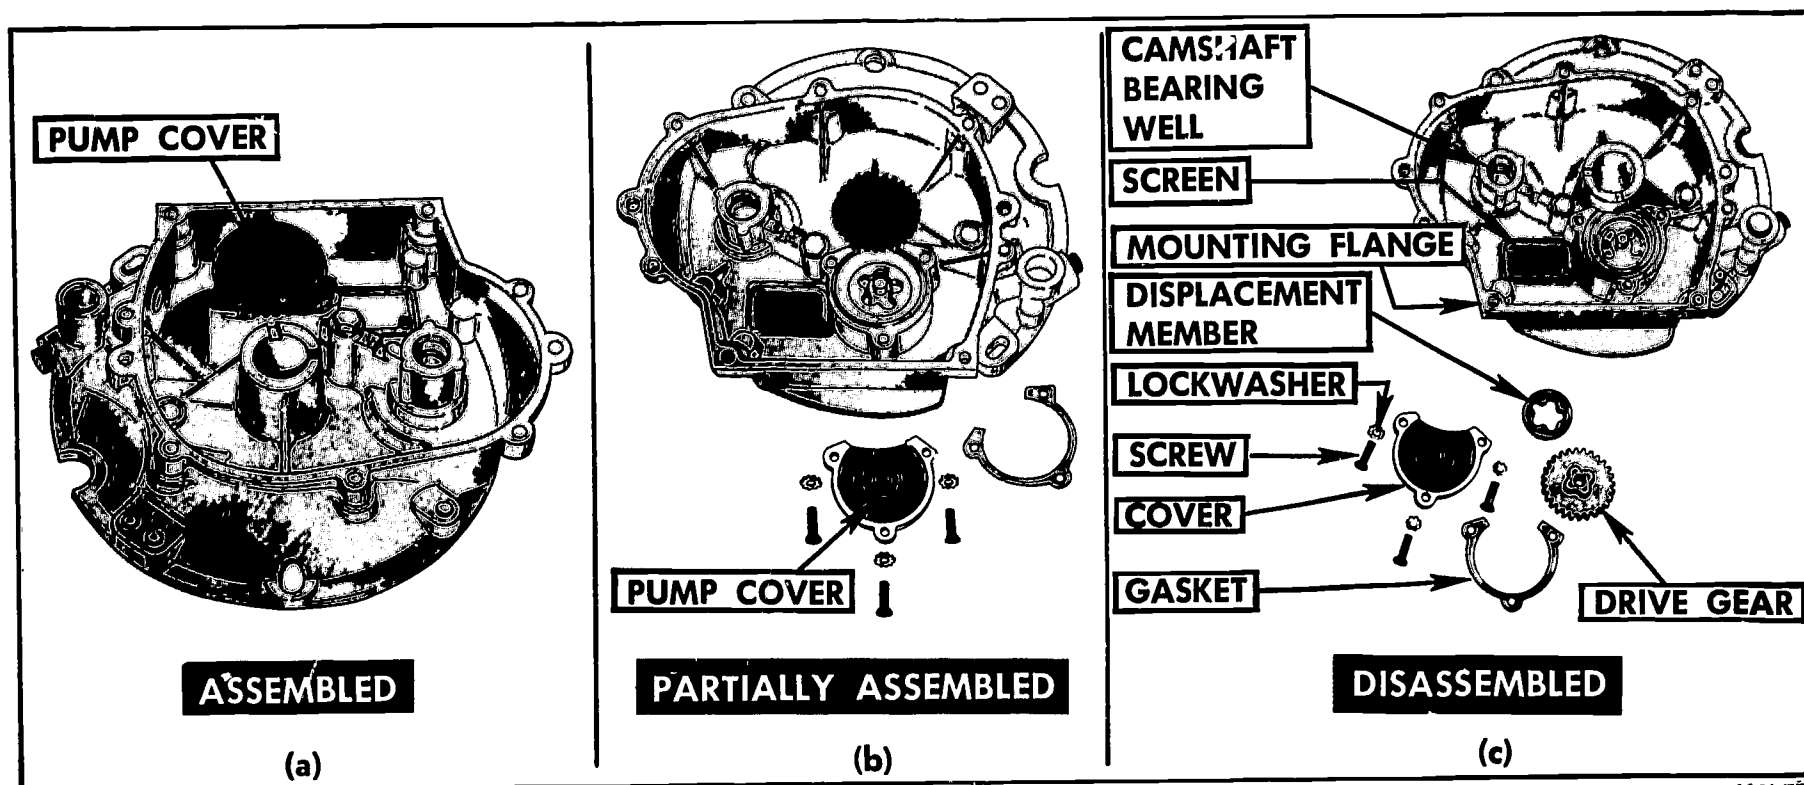

FIGURE 282. A gear pump located in the oil sump. (a) Pump with cover. (b) Pump partially disassembled. (c) Pump disassembled — except screen.
b. If your oil pump unit is a **gear design of the non-removable type** — pump housing part of casting (Figure 282), — proceed as follows: